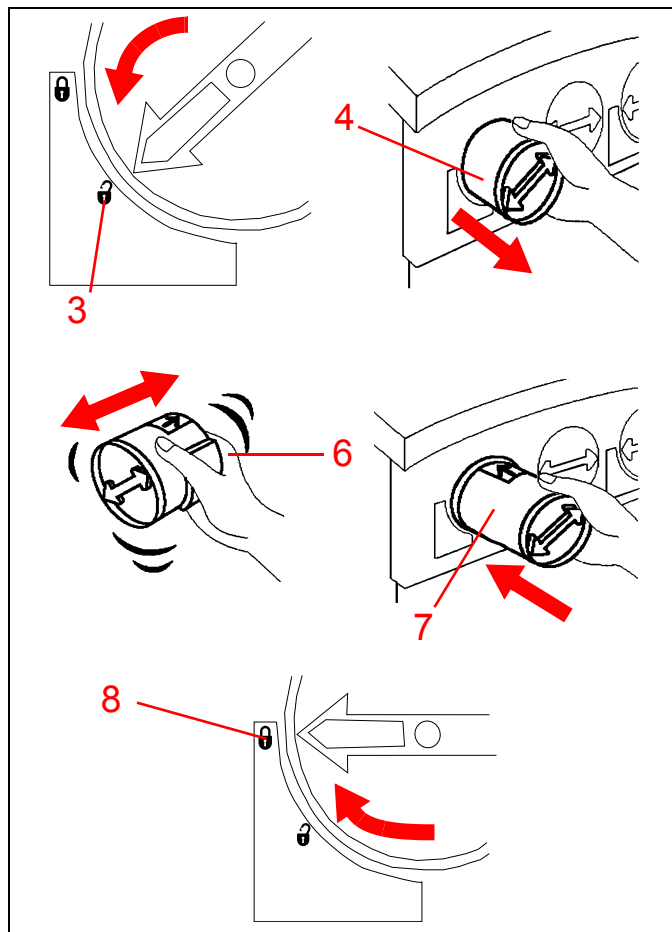

Figure 23
1. See Figure 23. Open the front door of the Docu-Color 12 Printer. (See Figure 18 on page 10.)